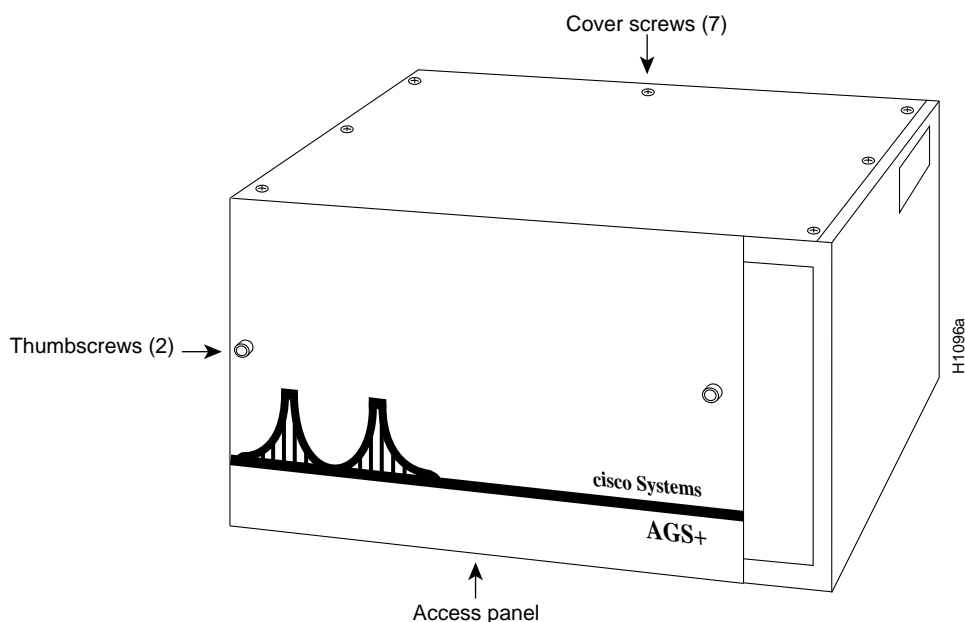

Figure 7 Chassis Front and Top Panels
- Step 5** To access cards in the card cage, loosen the two thumbscrews and remove the front panel from the chassis. (See Figure 7.) If you wish to access cards in the card cage only, skip the next step.
- Step 6** To access other system components, locate and remove the seven No. 1 Phillips screws securing the top cover. (See Figure 7.) Set the top cover and screws aside.